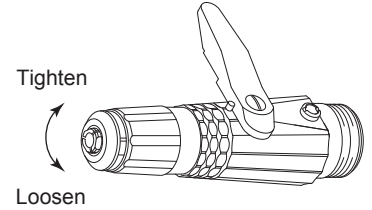

Fig. 7
- ③ Attachment and Adjustment of the collet.
- (1) Turning the lever vertically. And turning the collet clockwise by finger to the end to attach, while clutching the test bur or the using cutting tools into the collet.
- (2) And turn the collet about 1 / 5 counterclockwise to adjust the cutting tool to pull out easily. In this case, about 0.1mm thinner of cutting tool can be used (Fig. 7).